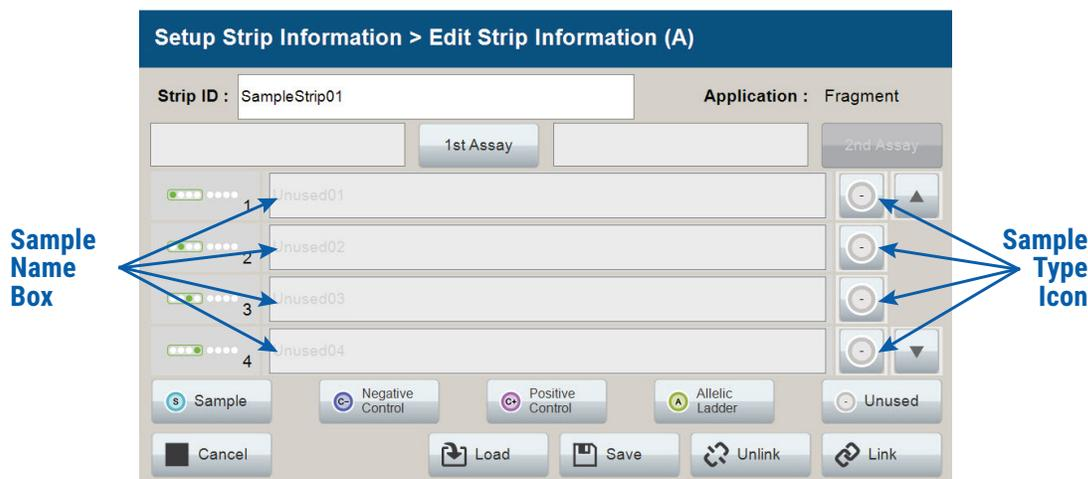
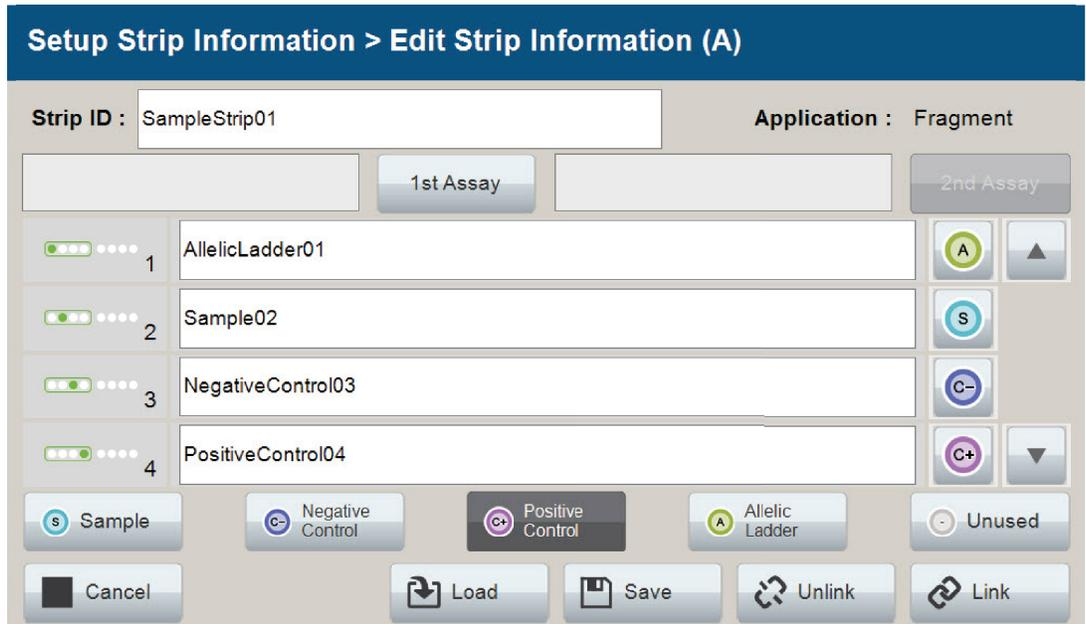
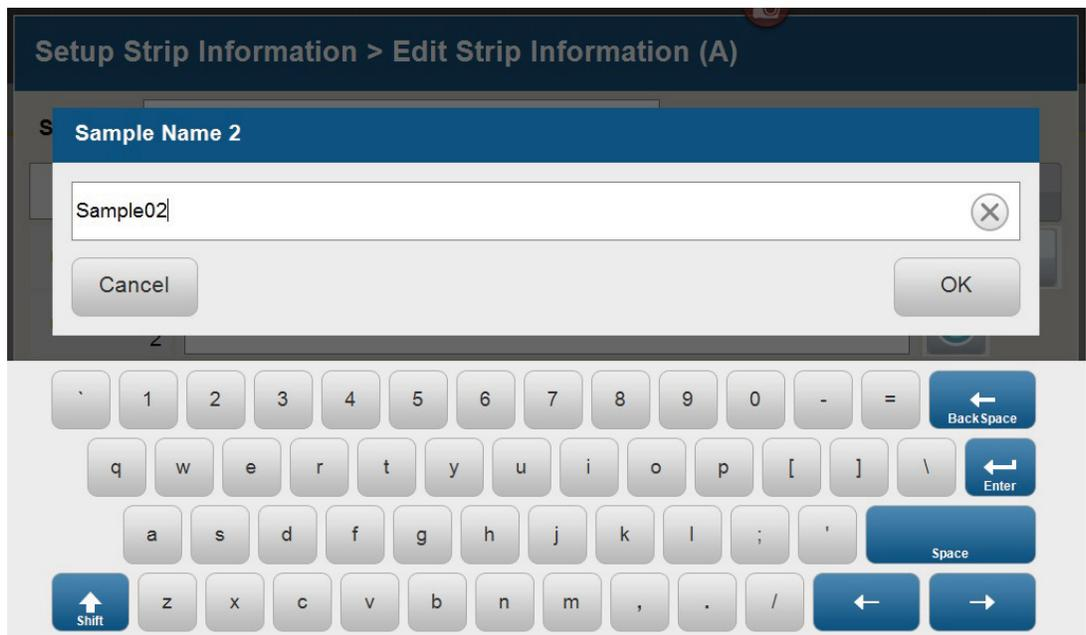
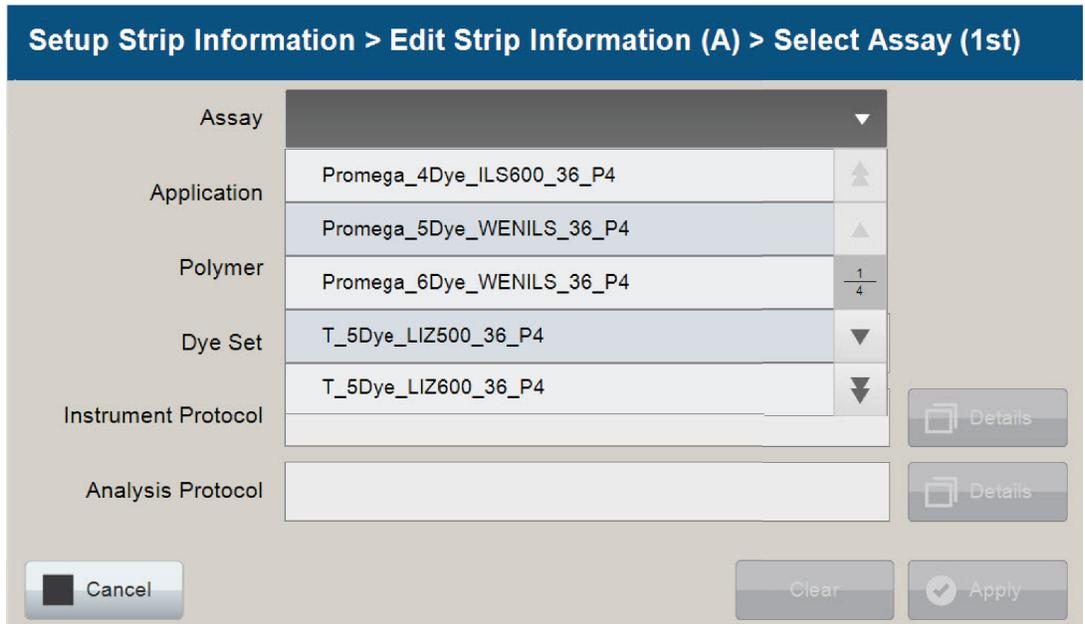

Figure 12. Sample Type and Sample Name on 'Edit Strip Information' screen.
Figure 13. Sample Name Entry on 'Edit Strip Information' screen.
Figure 14. 'Set Sample Name' window.
Figure 15. 'Select Assay' window.
- Select a sample type on the 'Edit Strip Information' screen (Figure 12). Sample types must be selected for each well position before the **Sample Name** box becomes active for entry of sample name. Sample types are as follows.
- To assign a sample type to a well, select the appropriate sample type along the bottom of the 'Edit Strip Information' screen (Figure 12), and then select the **Sample Type** icon to the right of the sample name field for the desired well. This icon will then display the sample type selected for that well (Figure 13).
- Enter a sample name for each well position by selecting the Sample Name box adjacent to the well number on the 'Edit Strip Information' screen (Figure 13). This opens the 'Set Sample Name' window and a keypad will become active on the touch screen (Figure 14). Alternatively, the Sample Name can be entered using a traditional keyboard if one is connected to the Spectrum Compact CE System. Enter the appropriate sample name, and then select **OK** to exit and return to the 'Edit Strip Information' screen.
- The Spectrum Compact Control Software includes preloaded run assays for use with chemistries available from Promega. Refer to the *Spectrum Compact CE System Operating Manual #TMD058* for information on creating or modifying assays. To assign a run assay to an injection set, select **1st Assay** on the right side of the 1st Assay field (Figure 13). This opens the 'Select Assay' window (Figure 15). Select "Promega_5Dye_WENILS_36_P4" from the drop-down list (Figure 15) and then select **Apply**.